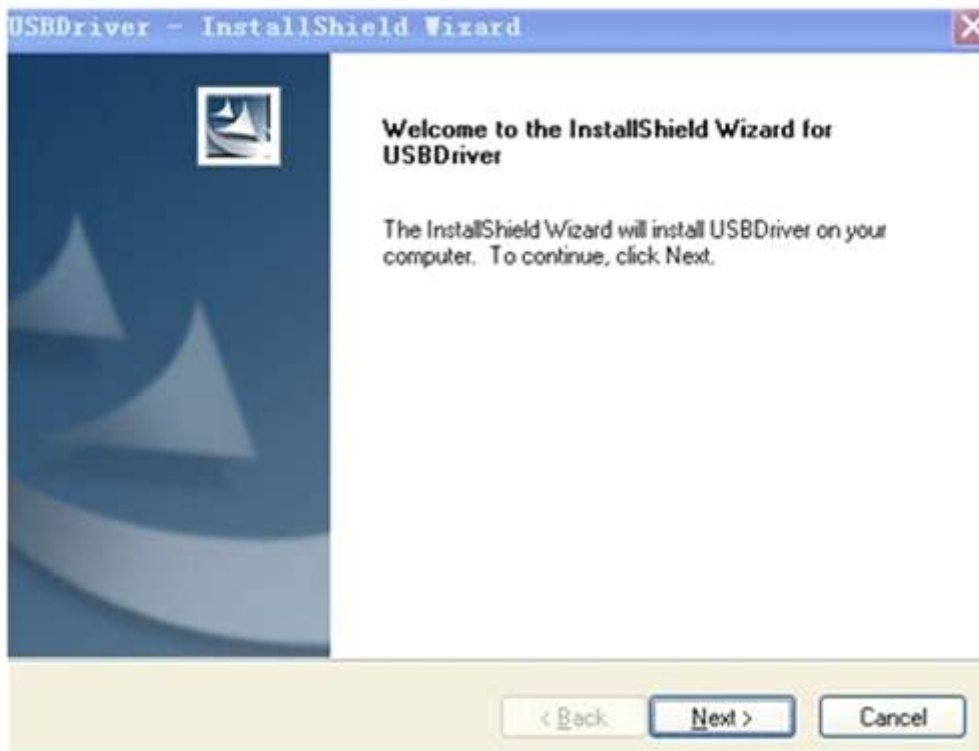

Figure 2-16: Install the USB driver
- Double click USBDriver file to start installation. See Figure 2-16.